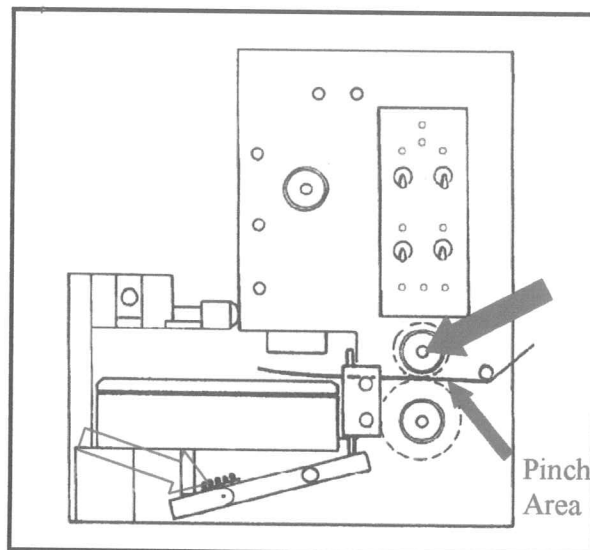

Fig. 5 – Turning the Rubber Roll
2. Start material as close to the center of the drive rolls as possible. Guide the material through the drive rolls, turning the rubber roll counter clockwise by hand (see Fig. 5).
4. Slowly turn rubber drive roll by hand making sure the material goes through the guides and starts to come out under the sealing head (see Fig. 5).